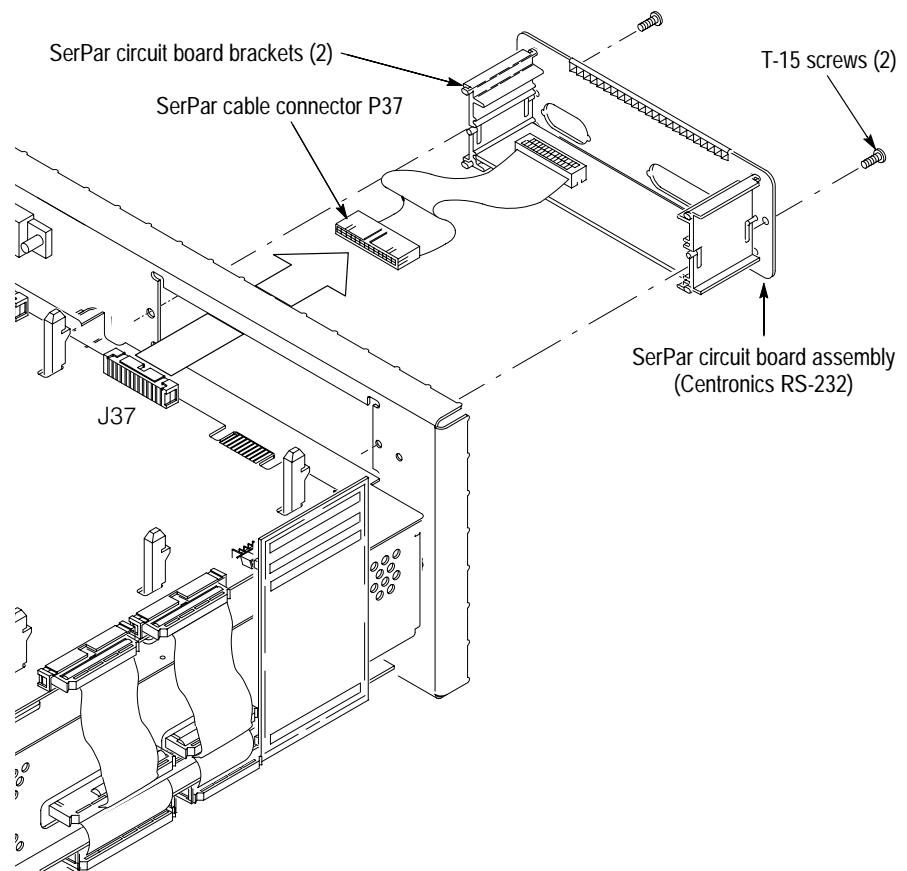

Figure 2: Pull out A23 SerPar circuit board assembly
1. The A23 SerPar circuit board (RS-232 Centronics) assembly must be removed to allow the TV Trigger circuit board to be installed onto the mounting posts, then locked in place by the rear SerPar circuit board brackets. See Figures 2 and 6.